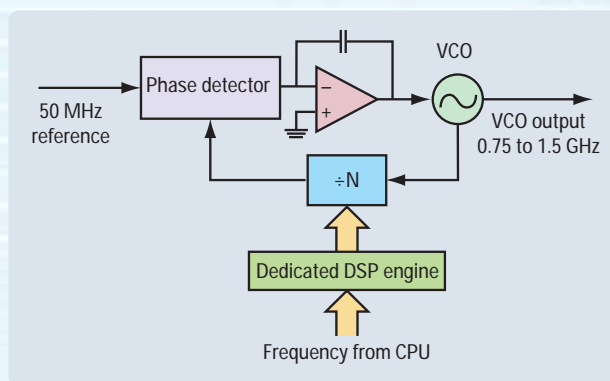

Figure 2. Simplified block diagram of the frequency synthesizer.
The frequency synthesizer inside the Agilent MXG generates the continuous wave (CW) RF signal. Each time the carrier frequency is changed, the synthesizer must move its output to the new frequency, representing a significant portion of the total switching time1. A simplified block diagram of the synthesizer is shown in Figure 2.